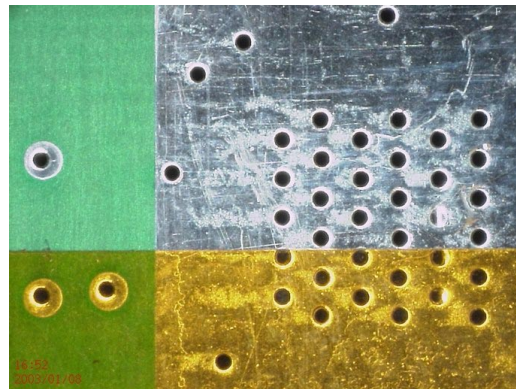
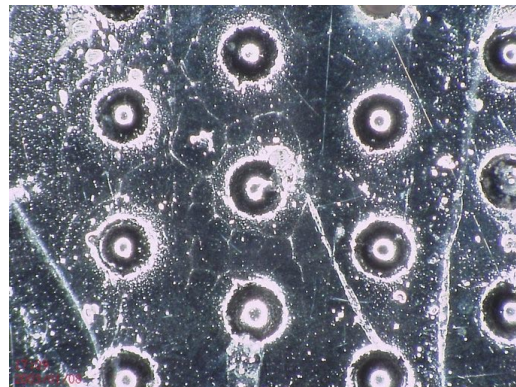

Figure 4: Example of Kapton® Tape On Thermal / Ground Pad
Figure 5: Solder-Filled Vias After Kapton® Tape Removal
- 1) Apply polyimide (Kapton®) tape to the backside of the PCB opposite the device (Figure 4). During reflow, solder fills the vias and the tape prevents solder from flowing over the backside thermal land pad (Figure 5). Additionally, this method keeps the thermal contact area flat – crucial if a heatsink is employed.